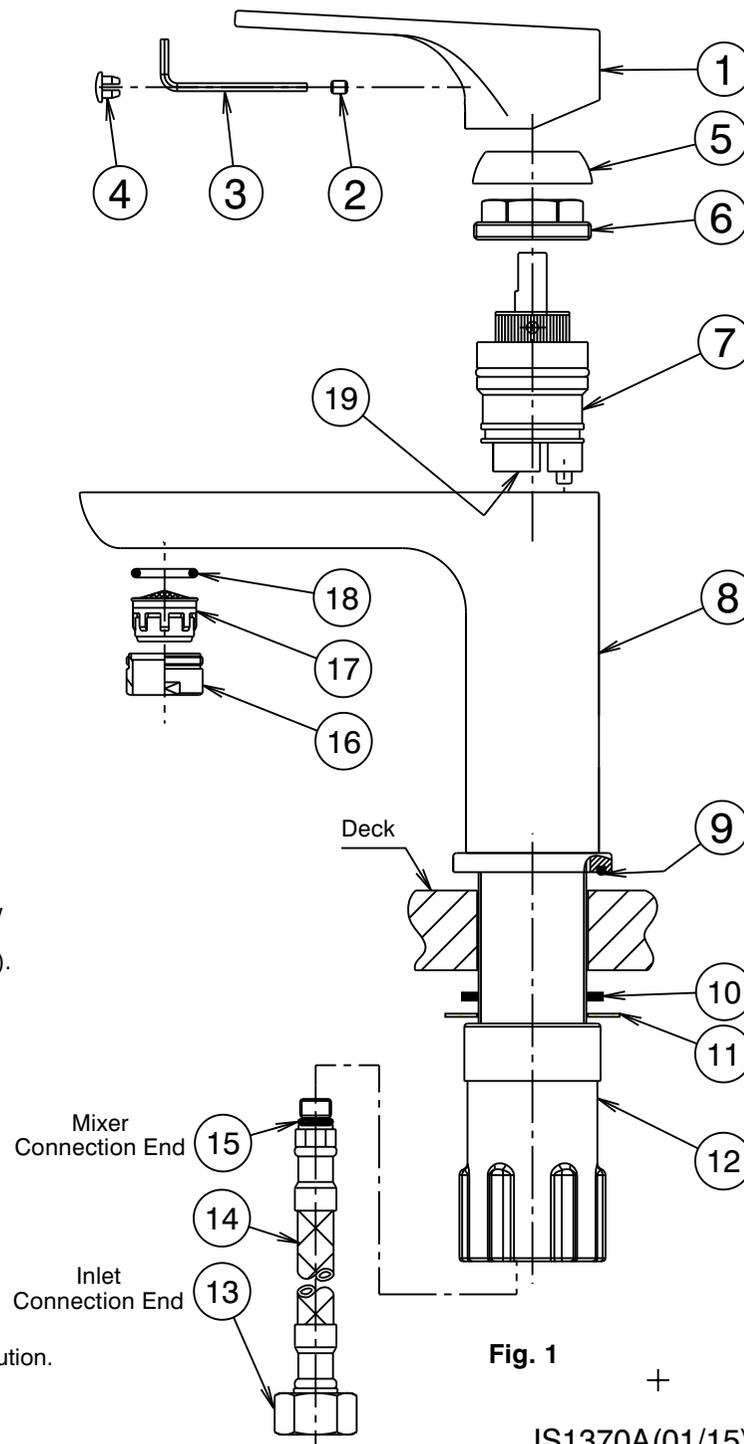

Fig. 1
- 1) From fixing pack fit seal (9) into groove in base of mixer (8).
- 2) *Flexible Tail Mixer Connections:* Apply suitable lubricant to 'O' rings (15). Fit flexible tail (14) (with red indication) into inlet hole marked with a Red Dot in underside of mixer body (8). Hand tighten the tail, ensuring the 'O' ring (15) has fully entered the sealing bore to provide a watertight joint. Fit other flexible tail (with blue indication) into remaining hole in a similar manner.
- 3) Insert the inlet connection end (13) of each flexible tail (14) through the hole in the deck. Insert threaded tail of mixer (8) into deck hole, fit rubber washer (10), followed by metal washer (11), over the threaded tail of the mixer (8) as shown (Fig. 1). Screw on nut (12) and tighten firmly by hand to secure the mixer to the deck.
- 4) *Flexible Tail Inlet Connections:* Connect the flexible tails (14) to the hot and cold isolating stop taps, hand tighten the connecting nut (13) until rubber cone contacts the sealing face of the connection end, then tighten a further one turn to provide a watertight joint.